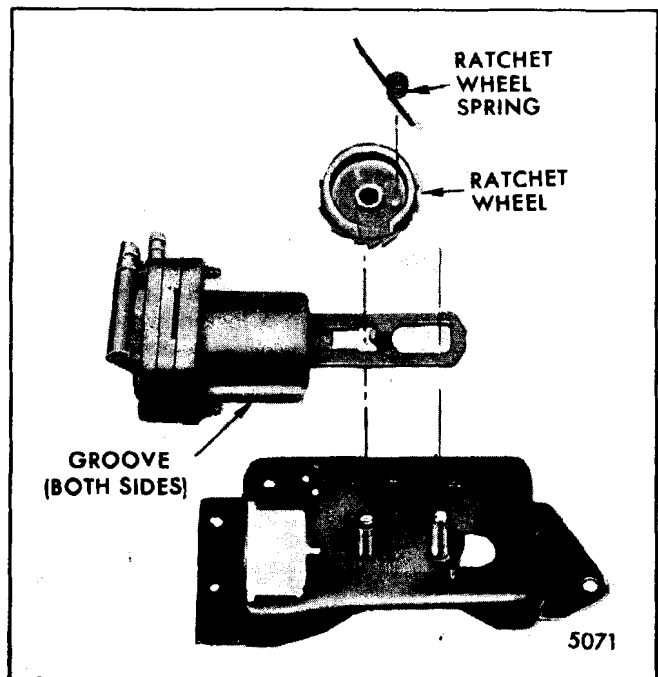

Fig. 2-62-Pump Ratchet Wheel
2. Move ratchet wheel spring out of shaft groove and slide ratchet wheel off its shaft (Fig. 2-62).